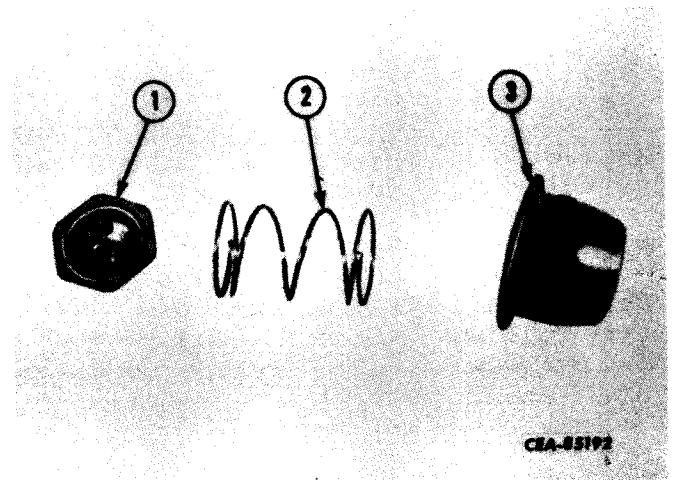

Figure 13-38
Separate check valve and seat (1, Fig. 13-38) and spring (2) from valve retainer (3).
Place spring (2, Fig. 13-38) in valve retainer (3). Insert check valve and seat (1) into retainer.